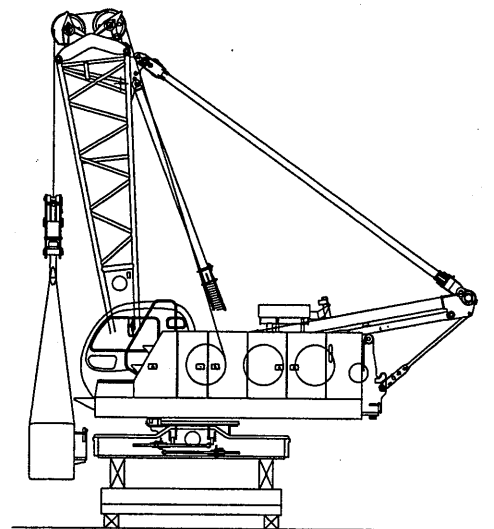

Fig. 11-32
- (6) Raise the boom, and allow the crawler to lay on the axle. (Fig. 11-32)